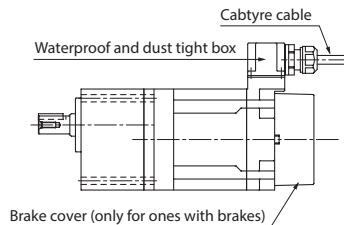

Figure 6-1
- **For a 40 - 90W waterproof motor**, do not open the cap of a waterproof/dust-proof box (see Figure 6-1); otherwise, waterproof/dust-proof effects will be lost and electric shock, damage, and fire may result.